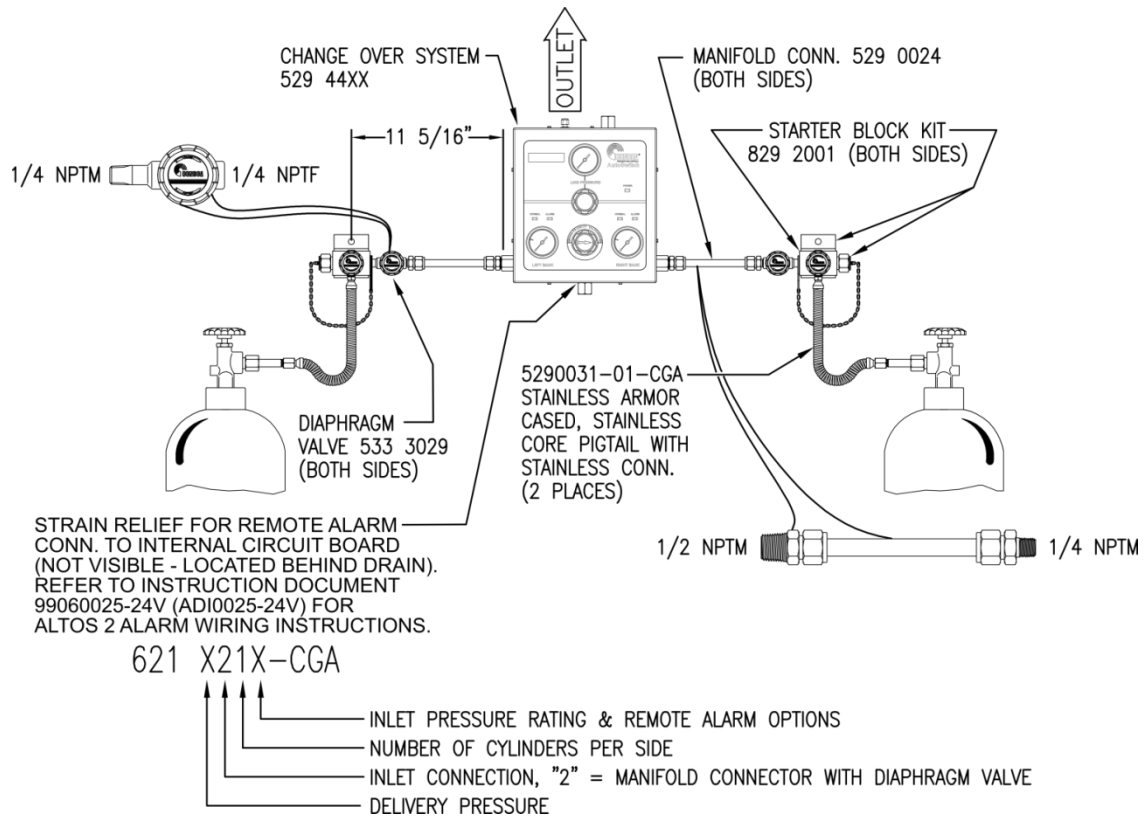

Figure 8 - Manifold Connector with Master Valves Shown with One Cylinder per Side
System 621 X21X-CGA (typical manifold setup with the manifold connector and diaphragm valve) – see Figure 8 for locations of components:
2. After taping the male NPT connections, thread the 1/2 NPT of the manifold connector into the bulkhead connector of the AutoSwitch as shown in Figure 8. Wrench-tighten.
4. Thread the 1/4 NPT connection of the tube fitting just removed into the diaphragm valve as shown in Figure 8. Wrench-tighten.
5. Thread the 1/4 NPT connection of the diaphragm valve assembly into the starter block as shown in Figure 8. Wrench-tighten.
6. Insert the tube fitting of the starter block assembly into the pre-swaged tubing of the manifold connector as shown in Figure 8. While holding the hex of the tube-fitting nut and body hex, rotate the wrench until a significant increase in torque is felt; after the increase is felt, tighten slightly. Note: do not use the gap inspection gauge to verify proper fitting makeup; the tube fittings on the manifold connector are pre-swaged at the factory. The proper torque must be applied to ensure a leak tight fitting.